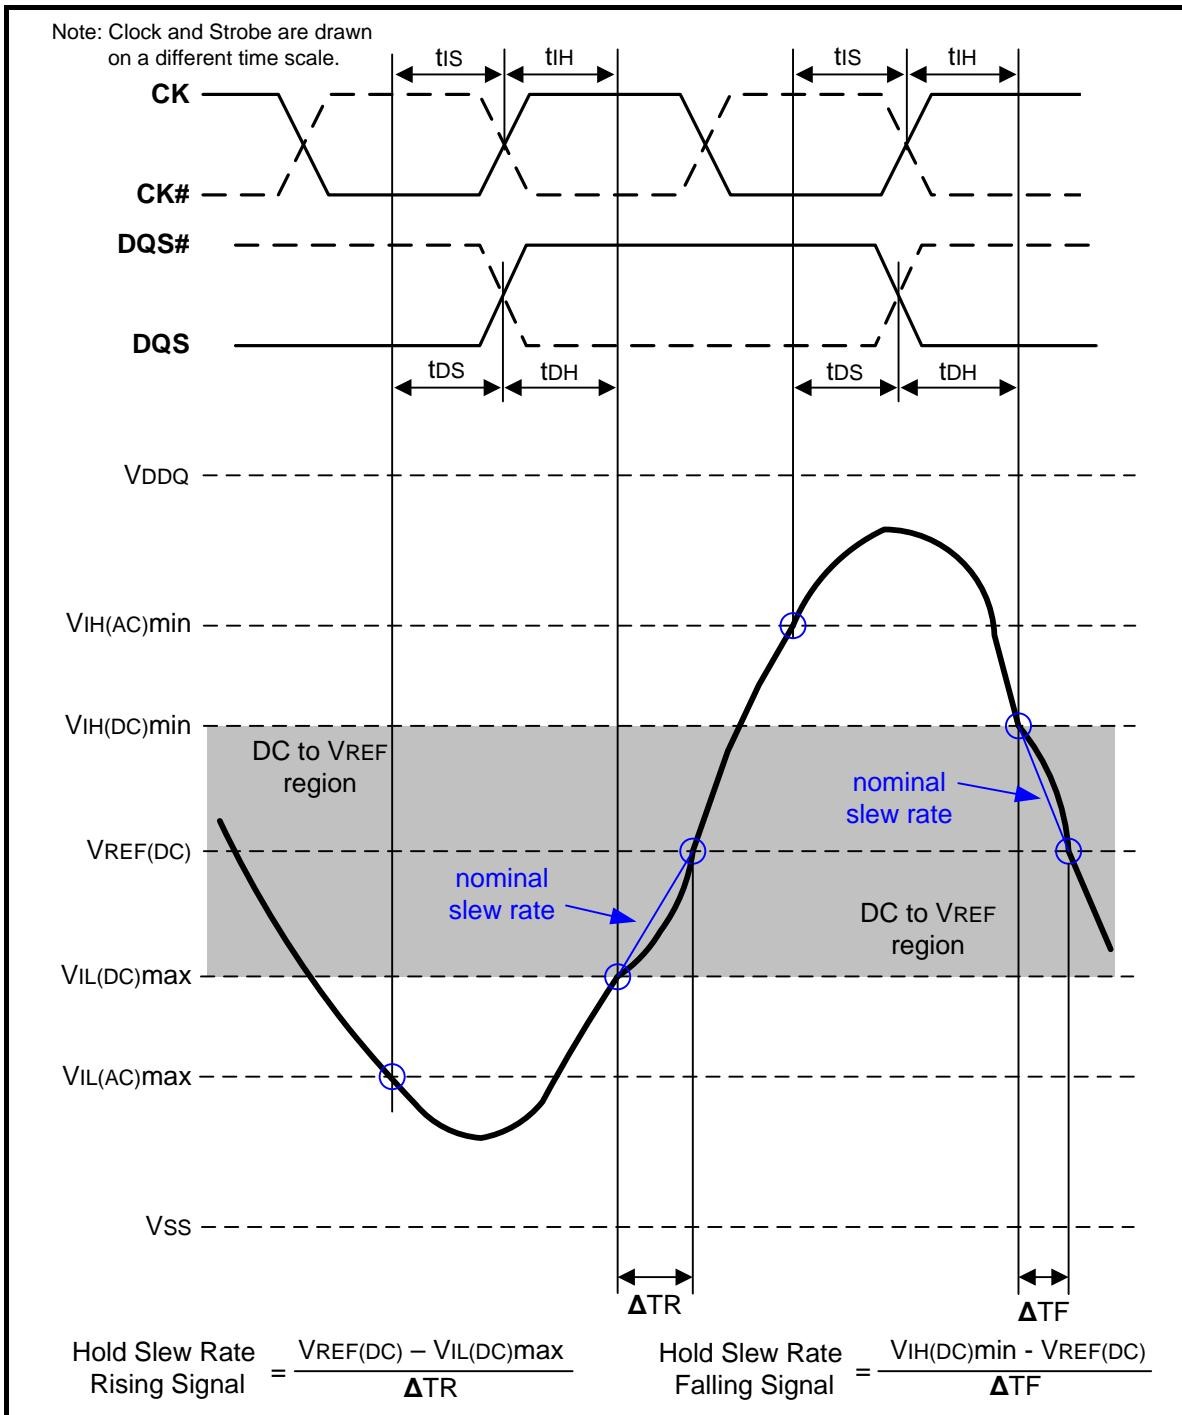
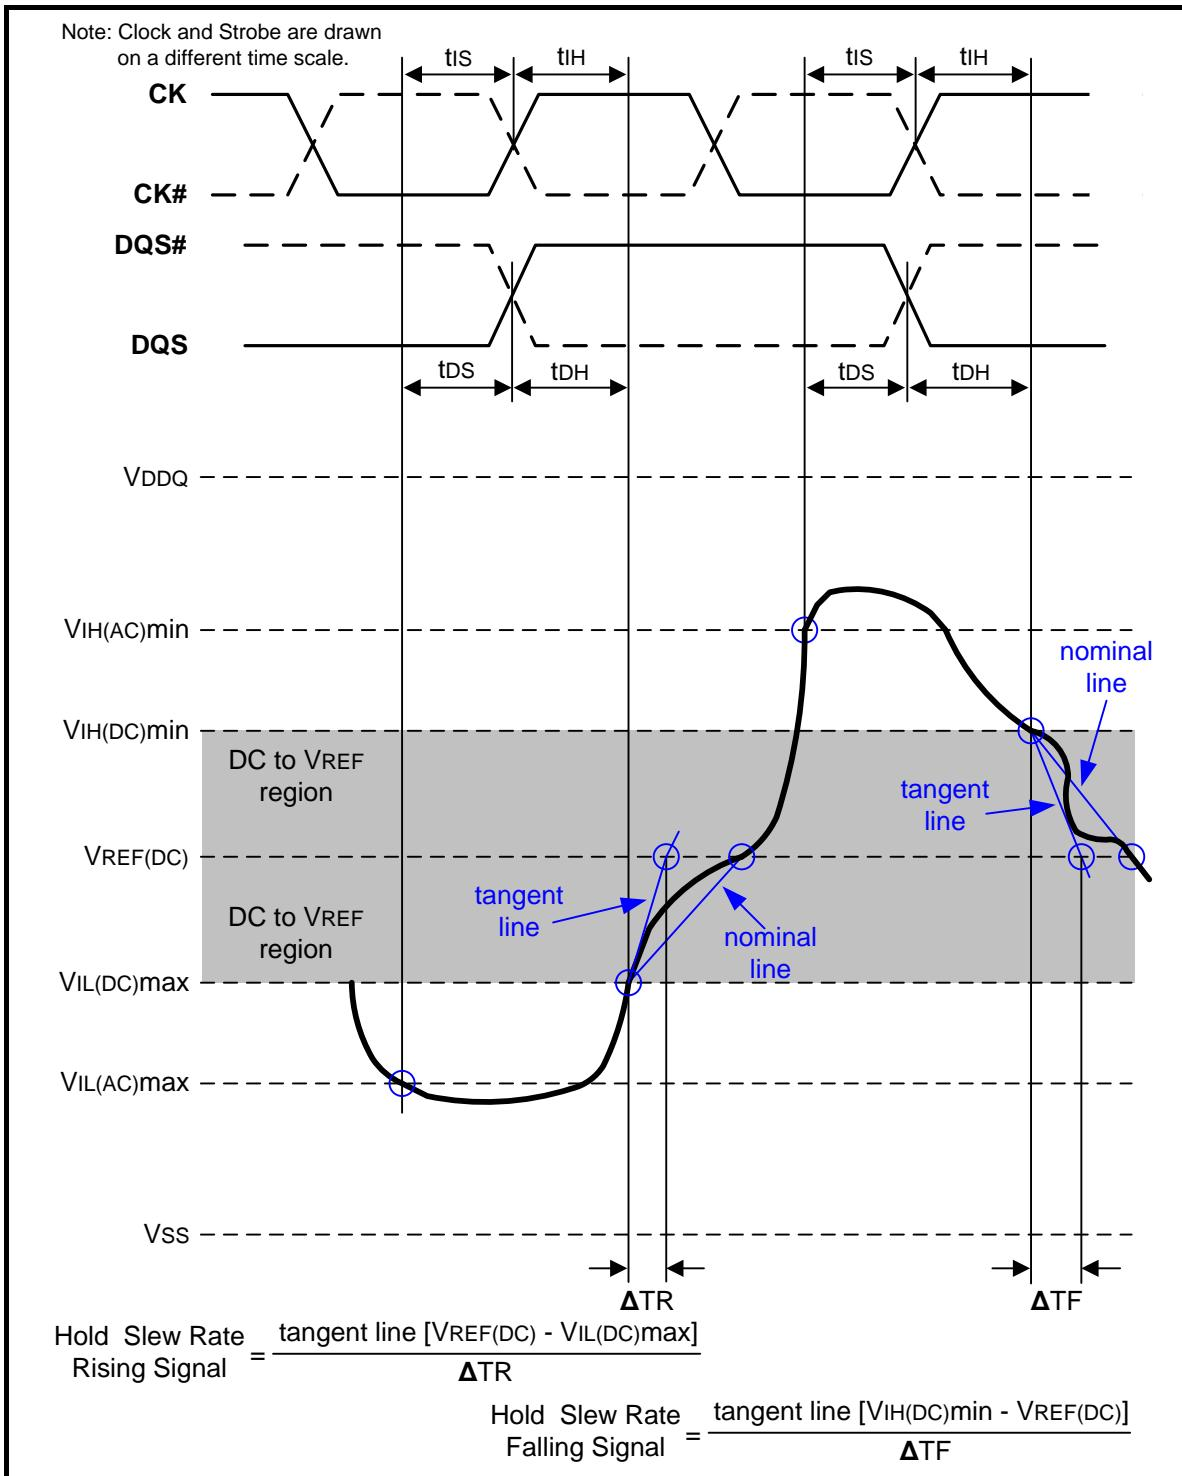

Figure 108 – Illustration of nominal slew rate for hold time t_{DH} (for DQ with respect to strobe) and t_{IH} (for ADD/CMD with respect to clock)
Figure 110 – Illustration of tangent line for hold time t_{DH} (for DQ with respect to strobe) and t_{IH} (for ADD/CMD with respect to clock)
Hold (tIH) nominal slew rate for a rising signal is defined as the slew rate between the last crossing of VIL(DC)max and the first crossing of VREF(DC). Hold (tIH) nominal slew rate for a falling signal is defined as the slew rate between the last crossing of VIH(DC)min and the first crossing of VREF(DC). If the actual signal is always later than the nominal slew rate line between shaded 'DC to VREF(DC) region', use nominal slew rate for derating value (see Figure 108). If the actual signal is earlier than the nominal slew rate line anywhere between shaded 'DC to VREF(DC) region', the slew rate of a tangent line to the actual signal from the DC level to VREF(DC) level is used for derating value (see Figure 110).
Hold (tDH) nominal slew rate for a rising signal is defined as the slew rate between the last crossing of VIL(AC)max and the first crossing of VREF(DC). Hold (tDH) nominal slew rate for a falling signal is defined as the slew rate between the last crossing of VIH(AC)min and the first crossing of VREF(DC) (see Figure 108). If the actual signal is always later than the nominal slew rate line between shaded 'DC level to VREF(DC) region', use nominal slew rate for derating value. If the actual signal is earlier than the nominal slew rate line anywhere between shaded 'DC to VREF(DC) region', the slew rate of a tangent line to the actual signal from the DC level to VREF(DC) level is used for derating value (see Figure 110).